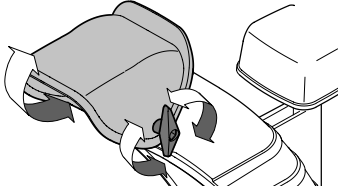

Figure 43
- Loosen wing knob found on left side of the upper chute assembly (Figure 43).